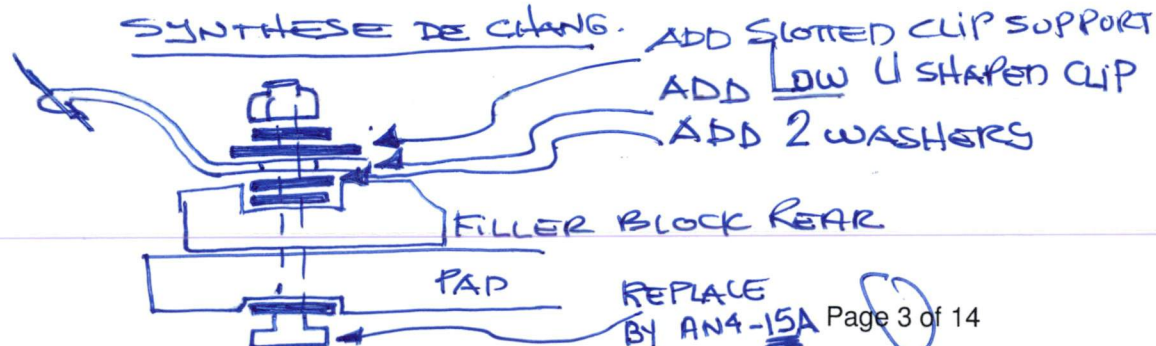

Figure 1 - Installed BearPaw Model BP44
- Position the BearPaw under skid at the aft intersection with the cross tube as per figure 1 with narrow edge pointing forward.